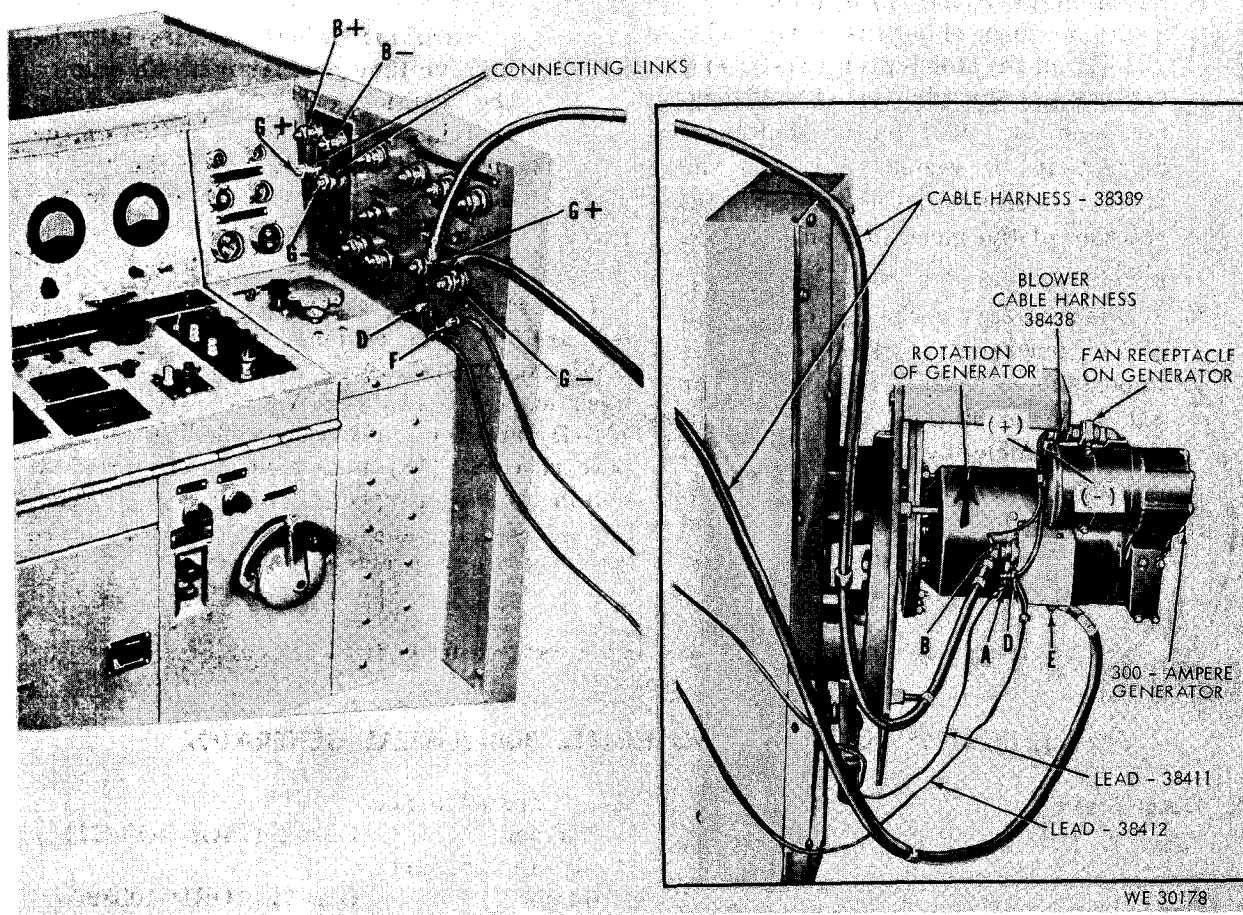
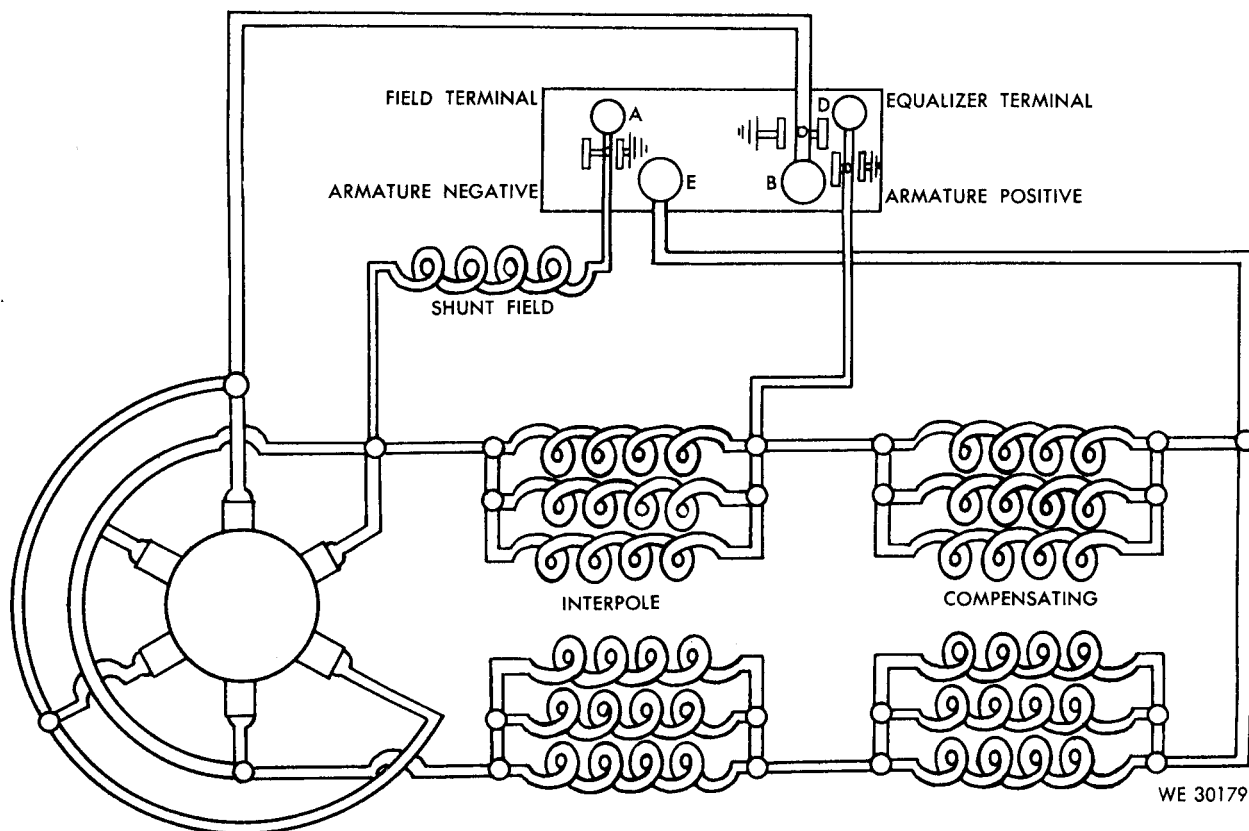

Figure 42. Testing output of Jack and Heintz, model G22-7F, 300-ampere generator.
Figure 43. Schematic internal wiring diagram for Jack and Heintz models G22, G22-2, and G22-7F, 300-ampere generators.
The Jack and Heintz 300-ampere generator (model G22, G22-2, or G22-7F, (fig. 43) is fan cooled. The generator has an internally grounded field, consisting of interpole and compensating windings. It is direct driven in a counterclockwise rotation at the drive end (turns to the left facing pulley (fig. 42). The models G22 and G22-2 have a built-in cooling fan whereas the model G22-7F has a cooling blower which is mounted separately on the housing of the generator. Refer to TM 9-2920-224-35.
- (3) Calibrate the tachometer indicator circuitry as prescribed in paragraph 97b.
- (4) Connect the generator to the generator input binding posts (13, fig. 15) of the test stand, as shown in figure 42, using applicable leads and cable harnesses (figs. 71, 73, and 74).
- (5) Connect a connecting link (fig. 65) between "B+" and "G+" and between "B-" and "G-" regulator binding posts (10, fig. 15) as shown in figure 42.
Note. The generator hook-up for testing a 300 ampere generator shown in figure 42 is for a Jack and Heintz model G22-7F. When testing a model G22 or G22-2 Jack and Heintz generator the hook-up will be the same except for the connection for the blower of the generator. This connection is not required as the cooling device for the models G22 and G22-2 is built within these generators by the use of a fan propelled by the generator shaft. When testing other models of 300-ampere generators the hook-up illustrated in figure 42 may be followed as a guide.